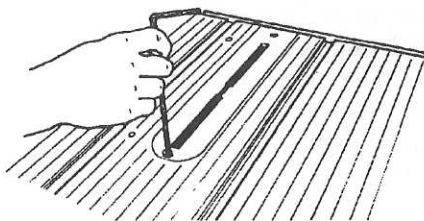

Fig. B-51
9. Use a 5/32" Allen wrench to remove the table insert, as demonstrated in Fig. B-51.